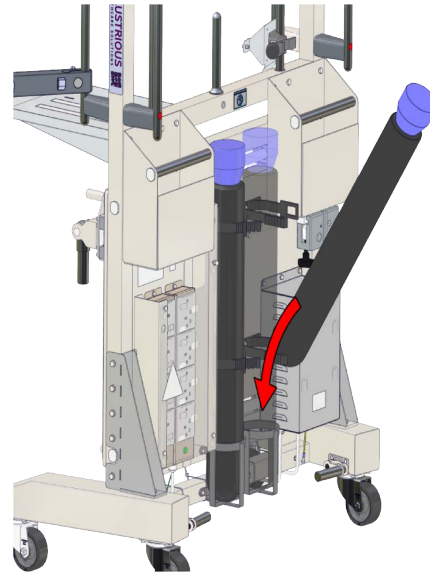

Fig 2.11 Fit/Remove Gas Cylinders
- Place gas cylinder in holder (Fig 2.11).
- Lift gas cylinder out of holder (Fig 2.11).